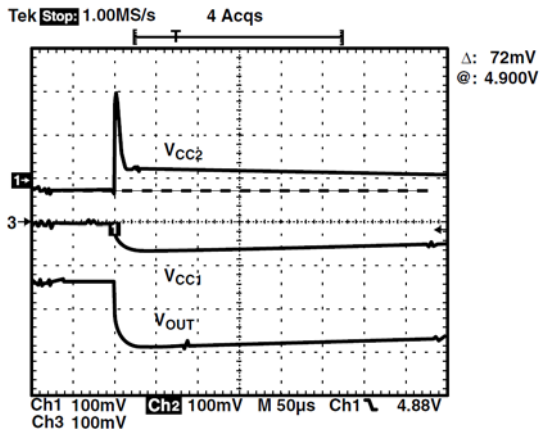
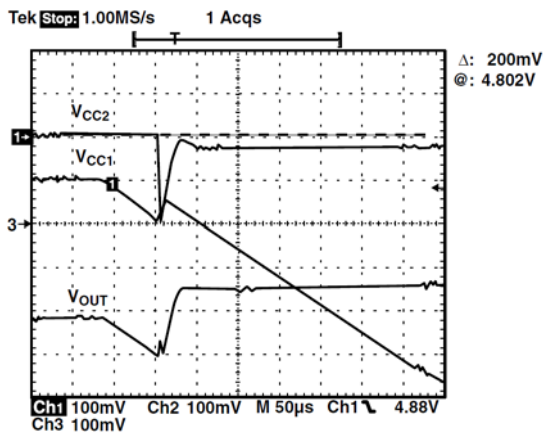
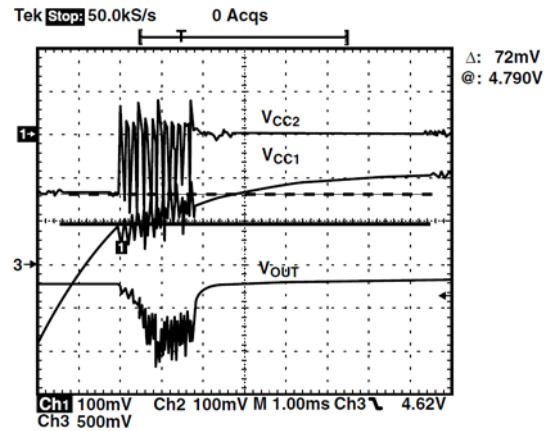

Figure 7.  $V_{CC1}$  Rising form 0 V to 5 V,  $V_{CC2} = 5$  V.
Figure 8.  $V_{CC1}$  Falling form 0 V to 5 V ( $V_{CC2} = 5$  V).
Figure 9.  $V_{CC1}$  Rising ( $V_{CC2}@ = 5$  V).
The test set-up used in Figure 7 and Figure 8 is described on page 5. The set-up for Figure 9 has larger series resistances on  $V_{CC1}$  and  $V_{CC2}$ .
**$V_{CC1}$  Rising from 0 V to 5 V ( $V_{CC2} = 5 \text{ V}$ ).** Figure 7 shows the primary supply  $V_{CC1}$  becoming selected during a 0 V to 5 V transition. The secondary supply  $V_{CC2}$  is set to 5 V DC. The channel 1 switch is turned on when  $V_{CC1}$  rises to within about 70 mV of  $V_{CC2}$ .  $V_{CC1}$  drops when it is selected due to power supply source resistance  $R_{S1}$ . A positive glitch appears on  $V_{CC2}$  when channel 2 switch is
$V_{CC1}$  Falling from 5 V to 0 V ( $V_{CC2} = 5$  V). Figure 8 shows the primary supply  $V_{CC1}$  becoming deselected during a 5 V to 0 V transition. The test conditions are the same as in Figure 7. Channel 2 switch is turned on as soon as  $V_{CC2}$  and  $V_{CC1}$  are about 200 mV. A negative glitch appears on  $V_{CC2}$ , when channel 2 is turned on. This has no effect on the output voltage.
$V_{CC1}$  Rising ( $V_{CC2} = 5$  V). Figure 9 is a bad test set-up that shows what may happen if either power supply source resistance  $R_{S1}$  or  $R_{S2}$  is too large. In this example,  $R_{S2}$  is increased to 0.3  $\Omega$ .